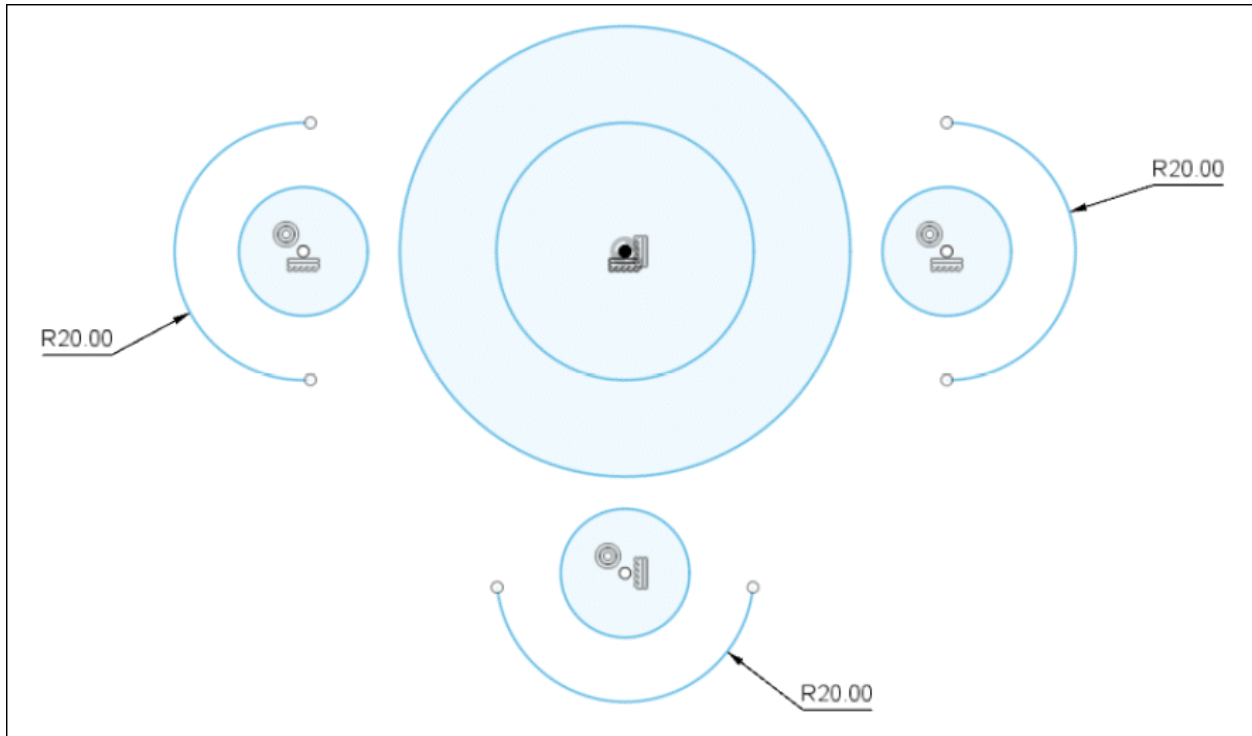

Figure-38. Creating arcs
- Select **3-Point Arc** tool of **Arc** cascading menu from **CREATE** drop-down and create three arcs of radius **20** mm each; refer to Figure-38. After creating the arcs, apply **Concentric** constraint to all the arcs.